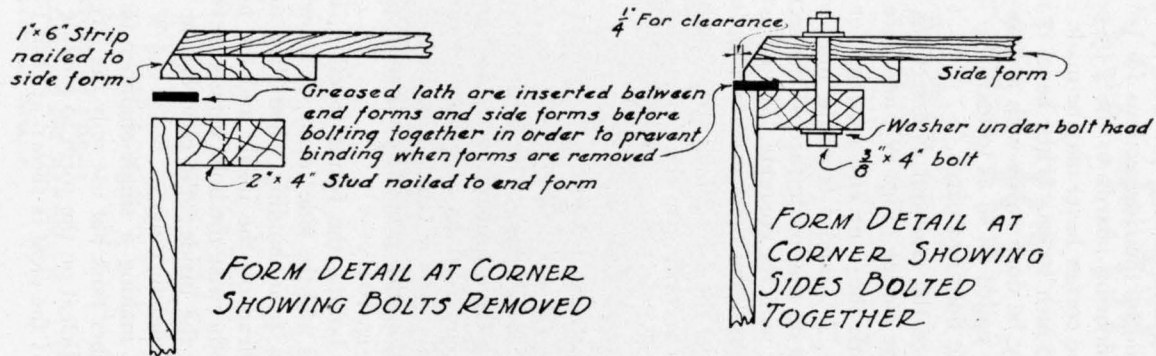

FIG. 19.—DETAILS IN CONSTRUCTION OF SPECIAL COLLAPSIBLE FORMS WHICH CAN BE USED REPEATEDLY
4. Build up the side sections for both the small and large chambers. Nail the flooring boards to the 1-by-6-inch strips with 6d nails (Fig. 19). The corner bevel may be made either before or after nailing on the 1-by-6-inch strips. If the bevel is made after the strips are nailed on, it may be done easily with a draw knife or a plane, provided the strips are nailed on so as to leave $\frac{1}{8}$ - or $\frac{1}{4}$ -inch extension beyond the end of the flooring boards.
5. Place the end and side sections together leaving $\frac{1}{4}$ -inch clearance at the corner (Fig. 19), and bore holes for the bolts.
6. Mark the four end sections for easy assembly, numbering the sections 1, 2, 3, and 4 from the inlet end of the tank (Fig. 19). Place the marks on the inside face of the sections so that they will not come in contact with the concrete. Make the numbers with heavy blue pencil or, better still, cut them in with a knife or other sharp-edged tool.
7. Bevel the 1-by-2-inch strips slightly (Fig. 19) and nail them on the forms according to the dimensions shown in Fig. 10 so as to provide slots for the baffles. Paint the entire outside surface of the forms with old crank-case oil.
Using the Forms. The forms are transported in sections. When assembling them preparatory to building a two-chamber tank, arrange the four end sections according to the numbers placing section 1 at the inlet end of the tank (Fig. 19). Place the side forms so that the cleats are in the proper position to provide the slots for the baffle boards (Fig. 10).
When bolting the forms together, insert greased lath between the end forms and the side forms, as shown in Fig. 19. This will prevent the forms from binding when they are removed. Be sure to place the bolt head on the inside and the nut on the outside as shown in Fig. 19; otherwise the bolts cannot be removed. The bolts are screwed out from the inside; the concrete on the outside of the form keeps the nut from turning.